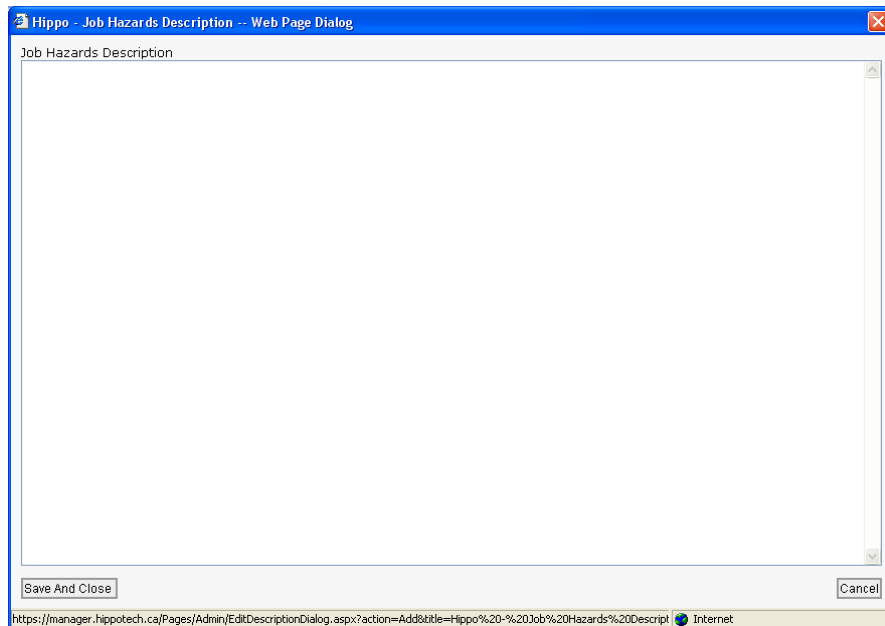

Figure 58: Job Hazards Description
- f. Edit job hazards list (click the **edit job hazards list** to edit this work order's job hazard list) (See Figure 58)